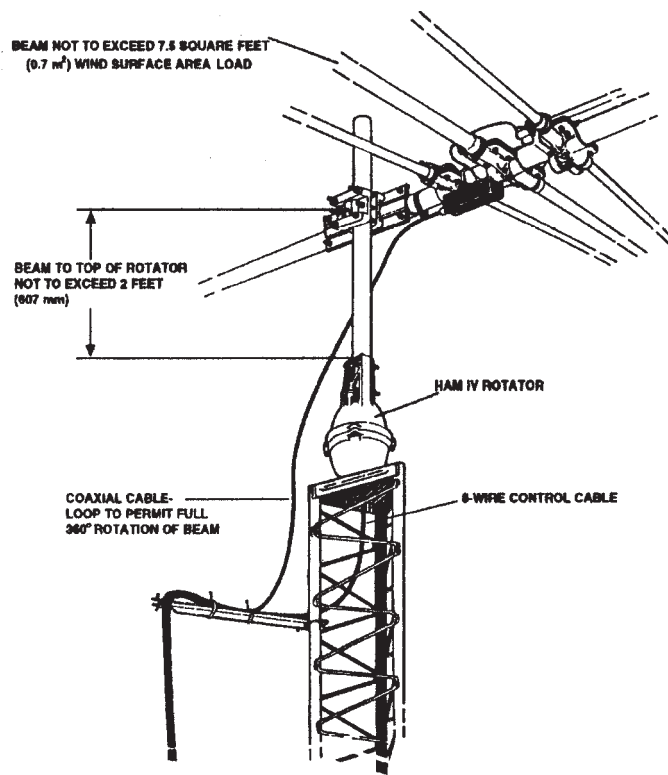
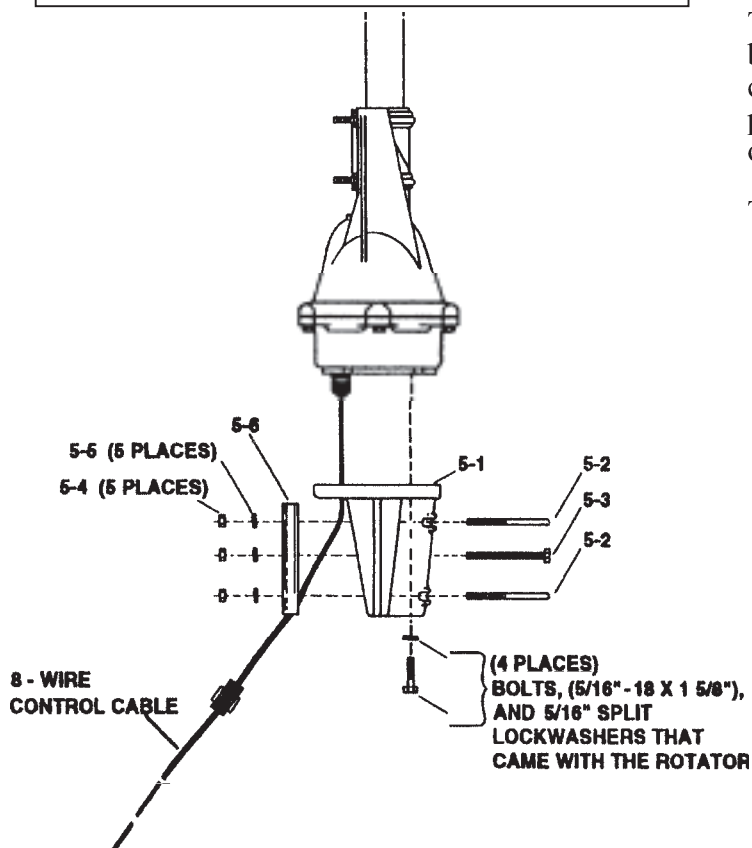

Figure 5
Figure 7
B. Outside Tower or mast Mounted as per Fig. 5 or 6	7.5 sq. ft. (0.7 sq. m) of wind surface area
*Maximum Effective Moment (EM)	2,800 ft. lb. (387 Kg. M)
When no mounted within a tower with a thrust bearing, as shown in Figures 5 and 6, the rotator must be DEBATED.
2. An "outside" Tower Mount (see Figure 5) is optional. The rotator is not well protected but the installation is simpler. With an "Outside" Tower Mount, the rotator must be derated to 7.5 square feet.
Referring to Figures 5, 6, and 7, an outside tower or pole mount is made in the same manner except that the rotator is fastened by four (4) bolts only (not six) to the Lower Mast Support, PN 51467 10. Since the eccentricity of the rotator turning in reference to the tower is no longer important, the shimming procedure is not necessary. The four (4) bolts must be torqued to the same specification and the 8-wire cable securely fastened. The lower mast should be pinned with the 5/16"-18 x 4" bolt as shown in Figure 7.
The stock HAM W is intended to mount on the base plate inside of the tower. However, in some instances, outside tower or mast mounting is desired as per Figures 5 and 6. This kit, P/N 5146710 contains a heavy-duty lower mast support and the necessary hardware to facilitate mounting the HAM IV on top of a tower stub or mast.